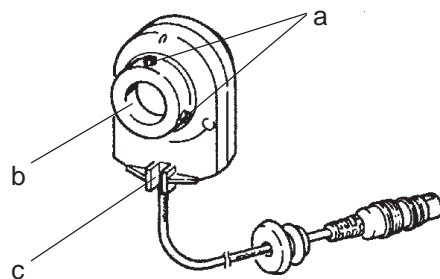

Fig. 6.10
- Fig. 6.10 shows a front view of the synchronizer. Slip the synchronizer onto the accommodation stub on the handwheel and secure by means of 2 socket head hex screws (a).